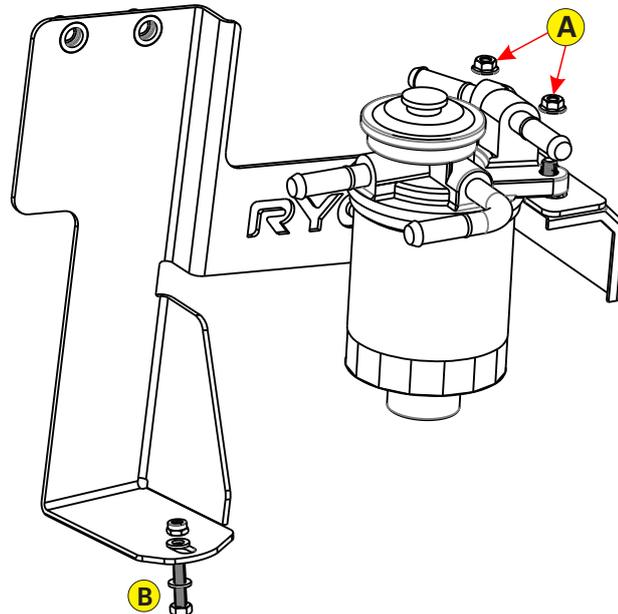

FIG. 1 BRACKET INSTALLATION
1. Remove the two nuts (A) securing the factory filter to the vehicle. Lift the factory filter off the studs and fit Ryco fuel filter metal bracket in the same position as the factory fuel filter. Place the factory filter over the Ryco bracket and loosley re-fit the nuts previously removed.
2. Use 1x 6mm bolt, nut and washers (B) to secure the bottom section of the Ryco bracket through the mud guard. Note the direction of the bolt in Fig. 1. Insert the bolt from inside the guard so it points up in to the engine bay and loosely fit the nut.